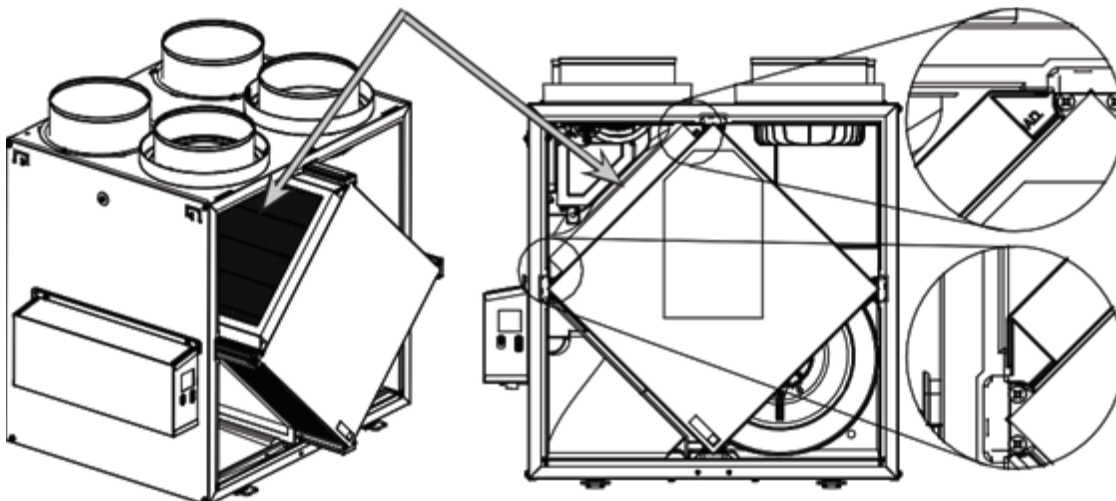

Fig. 27 – Optional MERV13 Filter
13. Install the MERV13 filter over the core (Fig. 27).